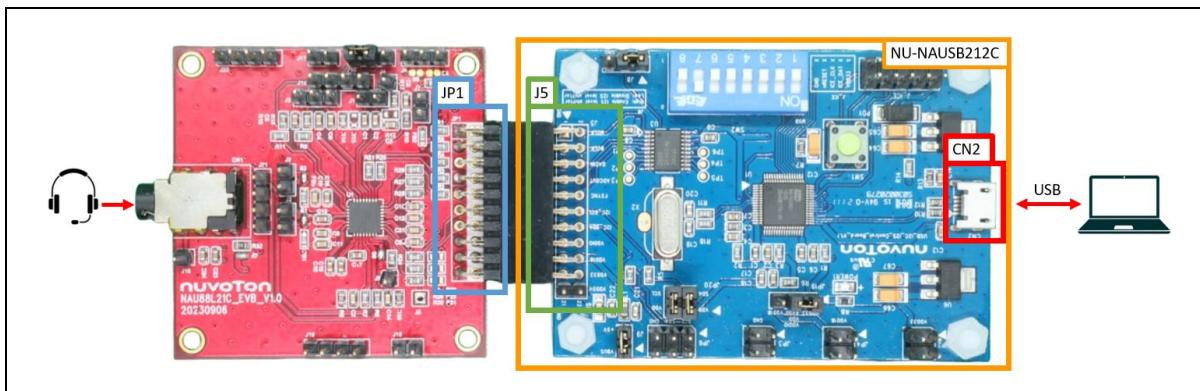

Figure 2-4 NU-NAUSB212C Connection
2. Connect J5 of NU-NAUSB212C to JP1 of NL-NAU88L21C. Figure 2-4 is the diagram after two boards are connected to each other.